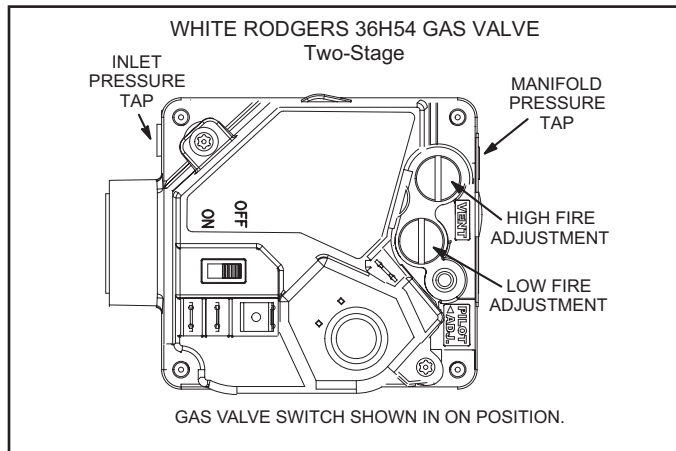

FIGURE 32
Gas valves GV1 (120, 240) and GV3 (240) are identical. The gas valves are two-stage redundant valves. Units are equipped with valves manufactured by WhiteRodgers.. On a call for first stage heat (low fire), the valve is energized by the ignition control simultaneously with the spark electrode. On a call for second stage heat (high fire), the second stage operator is energized directly from A55 (GV1, GV3). The valve is adjustable for both low fire and high fire. A manual shut-off knob is provided on the valve for shut-off. Manual shut-off knob immediately closes both stages without delay. FIGURE 32 shows gas valve components. TABLE 6 shows factory gas valve regulation for SGH series units